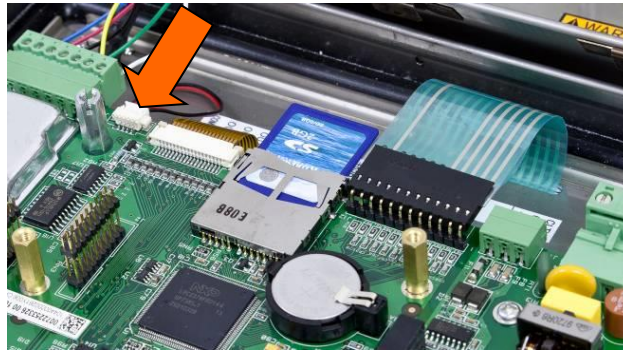

Figure 5-7: Inserting the SD Memory Card
- 1 Remove power from the terminal and insert the SD memory card if not already installed. Refer to Figure 5-7 for location of SD memory card.